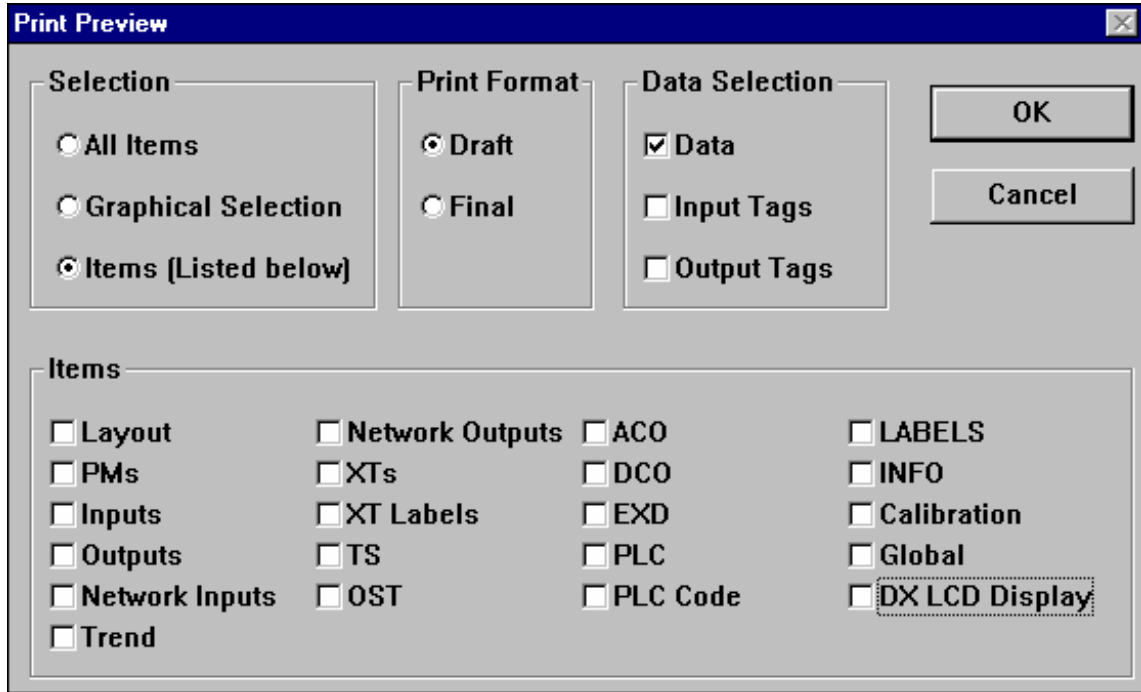

Figure D-3: Print Preview Dialog Box
1. On the File menu, click Print Preview. The Print Preview dialog box appears (Figure D-3).